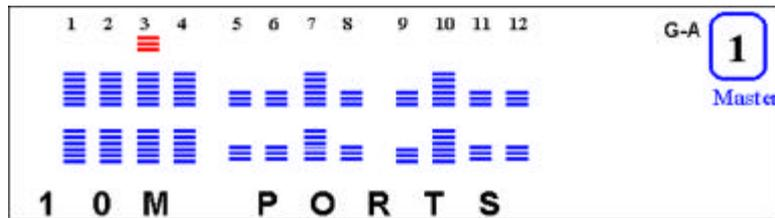

Figure 4.14 10 Mbps Ports
- 3) Press **<Enter>** to view all the ports’ status at once. Figure 4.14 illustrates 10M ports. In Figure 4.14, ports 13, 14, 15, 16, 19 & 22. Ports 1, 2, 3, 4, 7 & 10 are indicated as 10M ports.